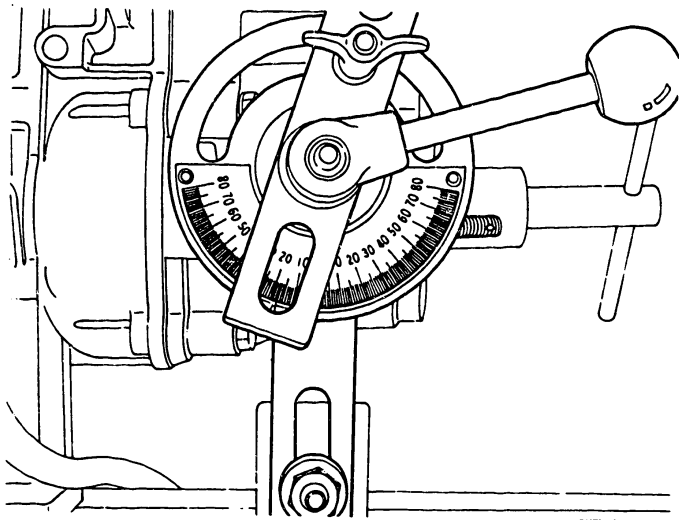

Fig. 83 Confirmation of load control lever angle
7. Measure the load control lever angle at the idling position. (Fig. 83)